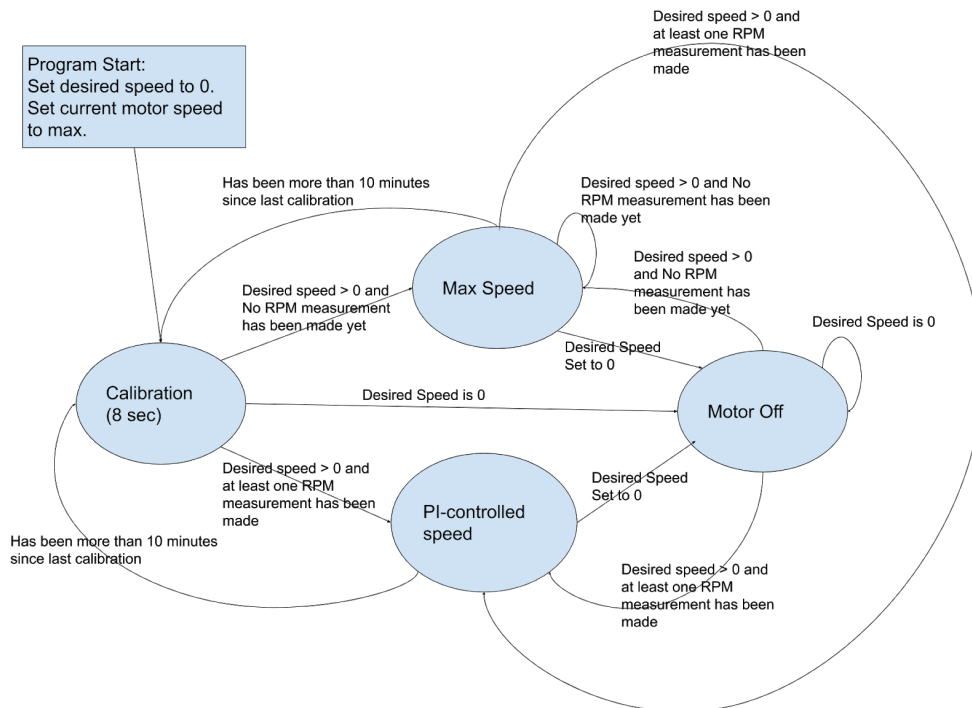

Figure 6: Finite State Diagram of the Rock Tumbler Performance
- (1) Brushed DC Motor (Pololu #3703) had the torque and angular velocity capabilities necessary for my application. One limitation is that I decided to use the Arduino's 5V power supply to run the motor which impacted the motor from running at top performance. As a result, I had to significantly reduce the weight in the canister during testing. Another limitation was that by having the protruding piece coming off of the wheel, the motor mounting bracket started bending like a cantilever beam, so I had to place a book on the motor to keep the wheel flat against the canister when turning. Going forward, I will need to modify the motor housing slightly to prevent this from happening for better engineering practice.
- (2) Arduino Uno is the microcontroller I decided to use, due to the ability for it to run the motor with 5V power supply while also doing feedback control. I already owned one previously, which made it a good fit.
- (3) Ultrasonic Sensor (HC-SR04) is the sensor I used to implement feedback control. It measured the distance away from it, as pictured in Figure 6, and could detect when the protruding piece made a revolution, as I mentioned earlier in Section 2.
- (4) The Transistor (N-Channel MOSFET) and Diode (IN4148) were useful to get the system to run, where the diode allowed for the back-emf to dissipate safely and the transistor controlled the motor. In addition, I use a 2.2 k Ω resistor to run the transistor.